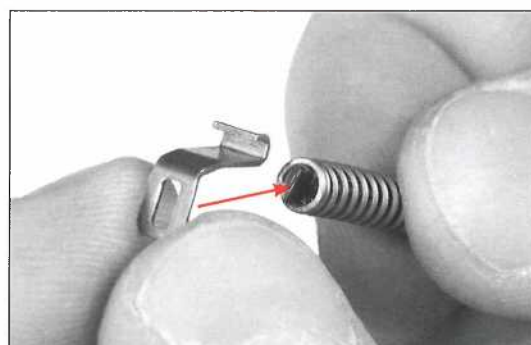

Fig. 263
- Align the slot on the trigger spring rod with the slot on the trigger spring bearing. (Fig. 263)